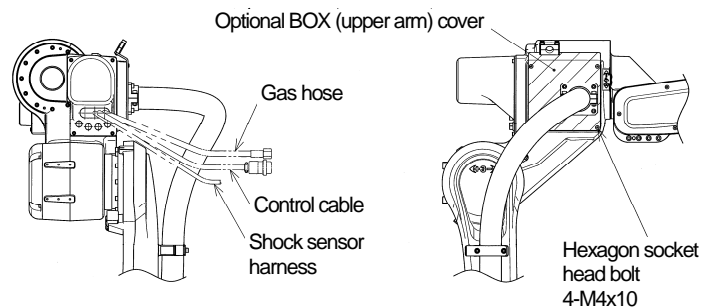

Figure 1.4 Outline of optional BOX (upper arm)
1. Referring to Figure 1.4, unscrew four hexagon socket head bolts (M4×10) and open the cover of optional BOX on the upper arm.